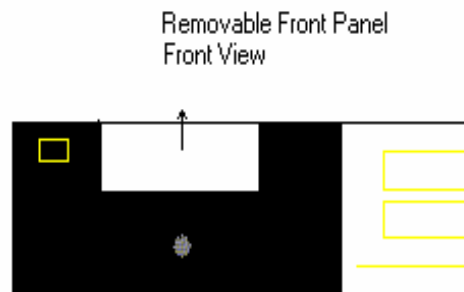

Figure-16 Removable Front Panel Front View
Step 9 Remove the front panel by sliding the panel up and out (Figure-16).
- Remove the Front Panel (Figure-16).
- Step 6 Remove the front panel by sliding the panel up and out (Figure-16).